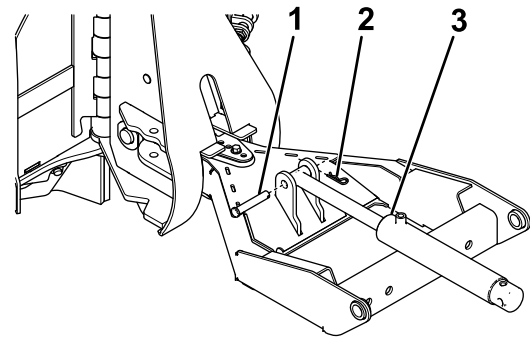

**Figure 6**
- Remove the horizontal hinge pin, flat washer, and top locknut from the blade center (Figure 6).
- Slide the pushframe into the blade center (Figure 6).
- Apply threadlocking compound to the previously removed horizontal hinge pin, flat washer, and top locknut, and secure the pushframe to the blade center with them (Figure 6).